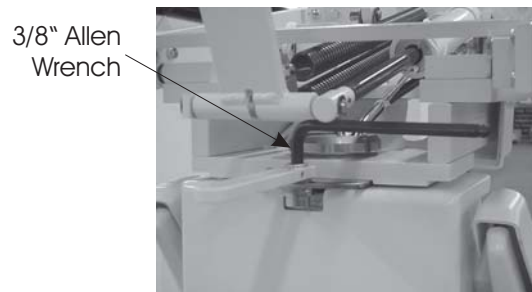

Figure 4.
- 4 As shown, use a 3/8" Allen Wrench to tighten the Brake Bolt until the desired amount of braking resistance is achieved, See figure 4.